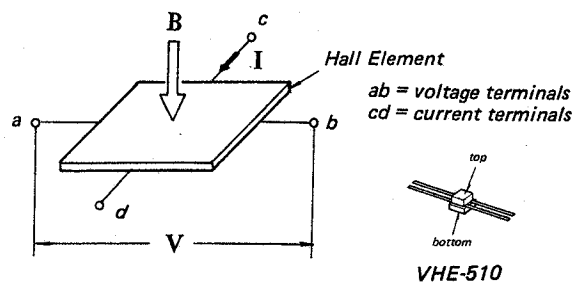

Fig. 1-1.
* The Hall Effect: When a current I flows through a substance, and a magnetic field B is applied at right angles to the direction of current flow, a potential difference V will be generated in a direction at right angles to both the current and magnetic field. (See Fig. 1-1.)